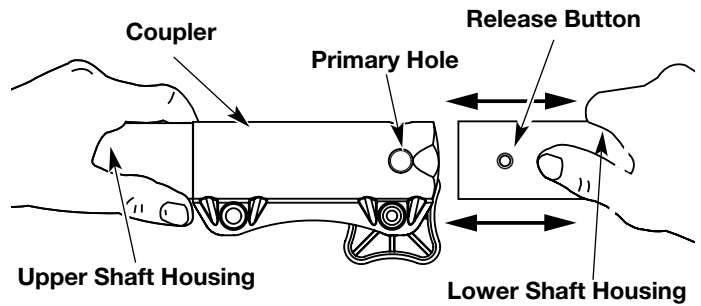

Fig. 2
3. While firmly holding the upper shaft housing, pull the add-on straight out of the coupler (Fig.2).
3. While firmly holding the add-on, push it straight into the coupler (Fig. 2).